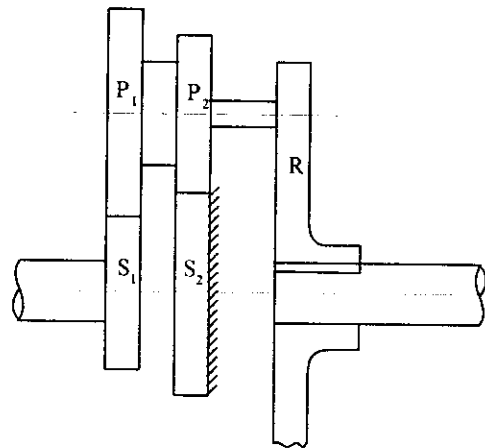

Fig. 7.44
5. An epicyclic gear shown in fig. 7.44 consists of two sun wheels  $S_1$  and  $S_2$  with 24 and 36 teeth respectively, engaged with the compound planet wheels  $P_1, P_2$  and  $P_1$  has 40 teeth.  $S_1$  is keyed to the driving shaft which is co-axial with the driven shaft. Find the velocity ratio of the train. If 7.5 kW is transmitted at 1000 rpm, what torque is required to hold  $S_2$ .